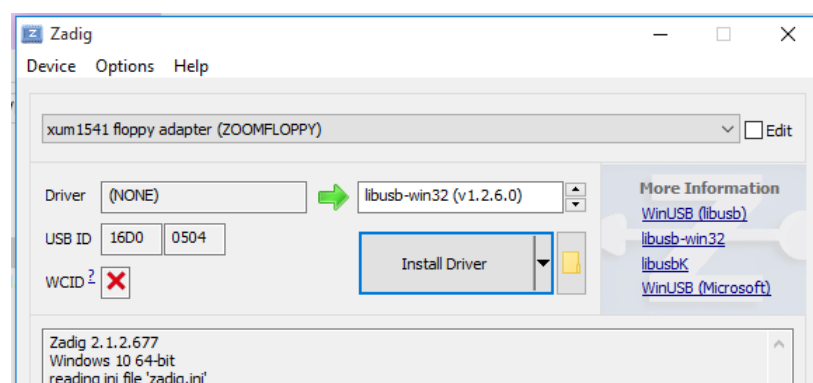

Figure 3: zadig settings for installing an xum1541 device
- **XUM1541 + ZoomFloppy only:** Make sure that zadig tells you it found the "xum1541 floppy adapter", and that it wants to install the WinUSB driver. The USB id is 16D0 (vendor) and 0504 (product). Your screen should look like figure 3 ().